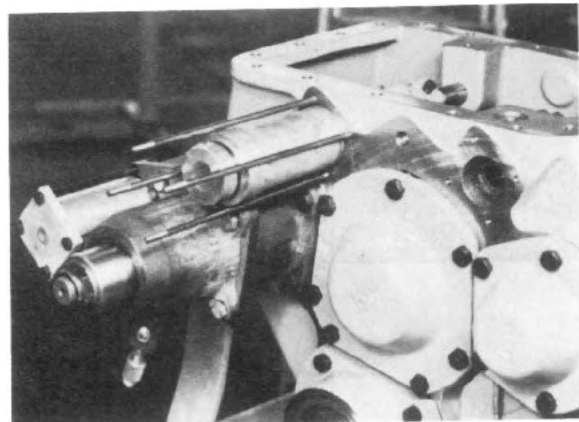

Fig. 36
9. If the transfer case is equipped with a PTO unit, the case must have a neutral position. Neutral is obtained through the use of a "piggy-back" cylinder mounted on the high-neutral cylinder (see Page PM7). This "piggy-back" cylinder, when actuated by properly connected air valves, provides this neutral position. The "piggy-back" cylinder consists of an adaptor (Item 41) into the grooves of which are installed oiled o-rings the adaptor may be put either end first (it is symmetrical) into the end of the high-neutral shift cylinder tube (See Fig. 36). The air inlet connection should point in the same direction as when removed. The "piggy-back" shift shaft piston assembly (with nylon stop ring over the end of the shaft) should now be inserted into the "piggy-back" adaptor. Slip the "piggy-back" shift cylinder tube (Item 43 which is 3 $\frac{1}{8}$ " long) over this piston.